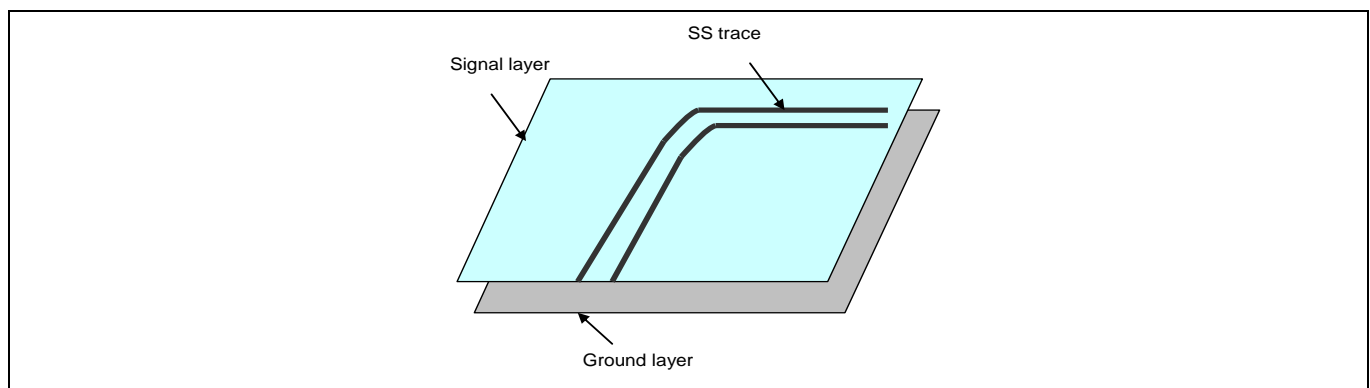

Figure 19 Solid ground plain under the SuperSpeed signal
- All SS signal lines should be routed entirely over a solid ground plane on an adjacent layer. Splitting the ground plane underneath the SS signals increases loop inductance introduces impedance mismatches and increases electrical emissions. See Figure 19.